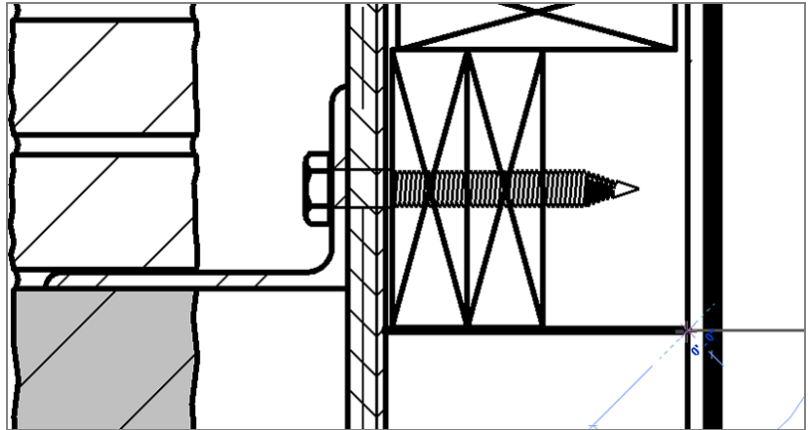

FIGURE 12.44: Drawing a medium line
5. Draw a line, as shown in Figure 12.44. Be sure to use your endpoint and perpendicular snaps.